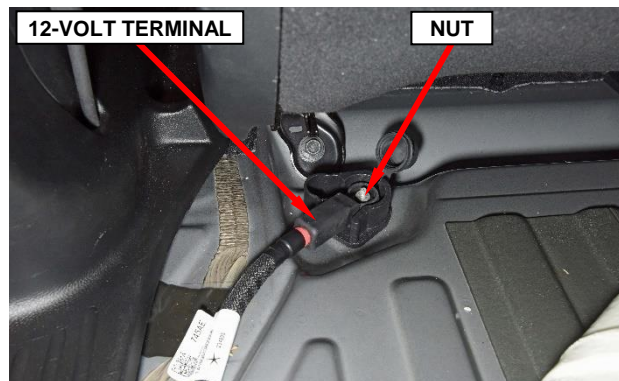

Figure 25 – 12-Volt Cable Terminal
15. Remove the nut from the 12-volt terminal isolator post (Figure 25).
16. Remove the 12-volt terminal from the isolator post (Figure 25).